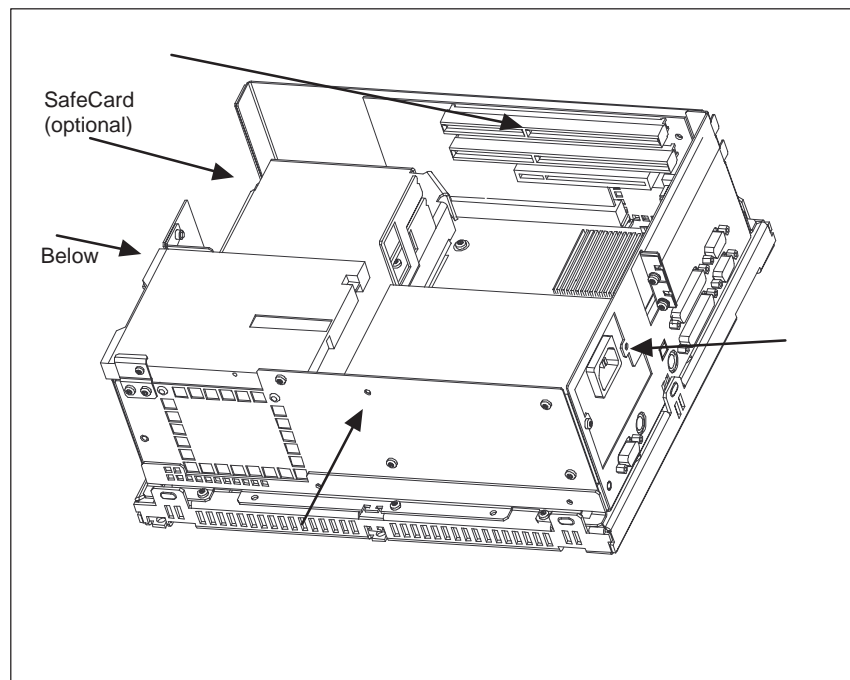

Figure 1-4 Opening the System Unit
- Remove the four screws (see Figure 1-4) on the housing cover. Then remove the housing cover.